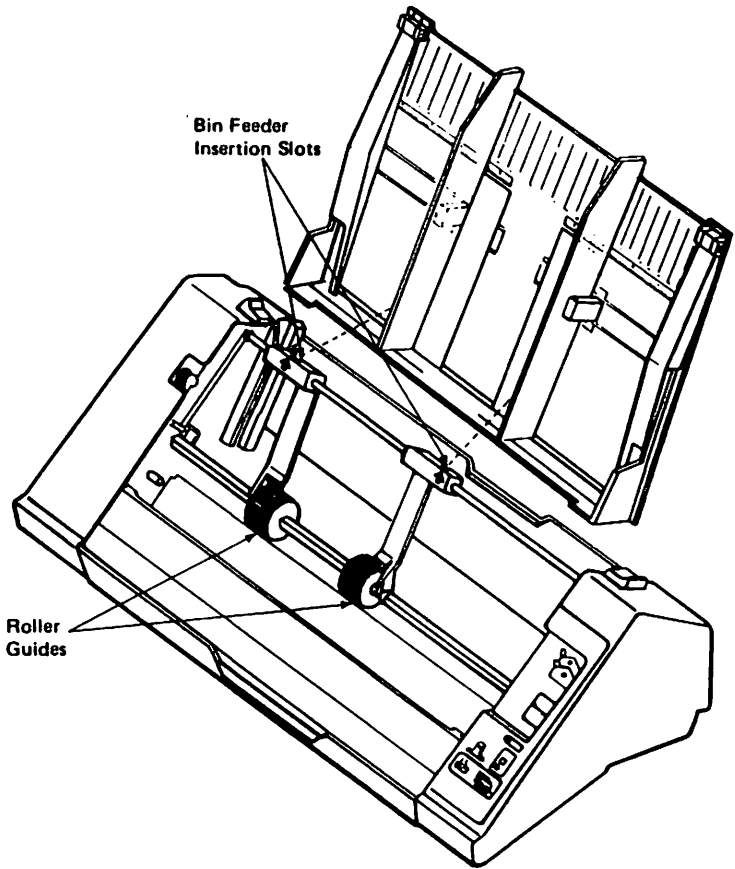

Figure 29 Roller guides
6. Adjust the left and right roller guides to align with the input hopper side plates. The top edge of the side plates must fit into the slots of the roller guides (Figure 29).
6. Adjust the left and right roller guides to align with the input hopper side plates (Figure 29). The top edge of the side plates must fit into the slots of the roller guides.